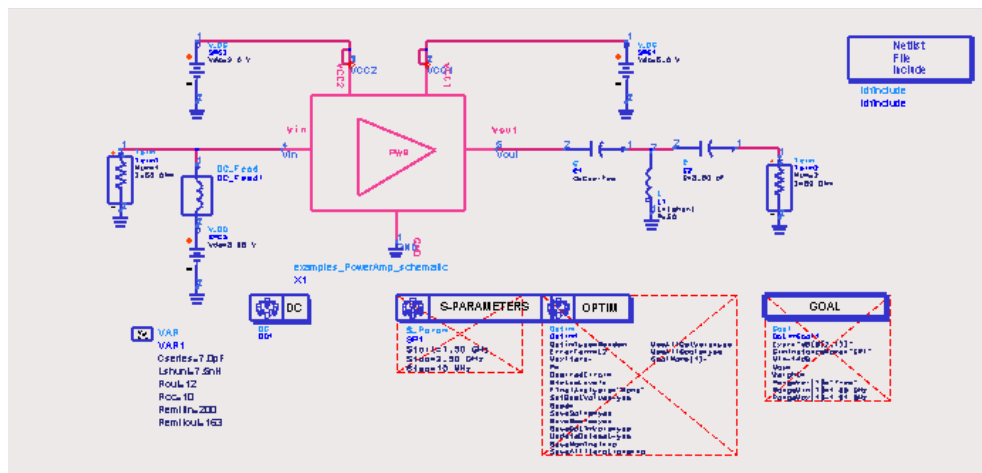

Figure 8-1. Example setup for DC Simulation
1. In Advanced Design System, set up and simulate your schematic. This schematic must contain a *DC Simulation Component* as shown in Figure 8-1.
2. Select the schematic symbol in the ADS schematic that represents the Cadence circuit you want to back annotate. For example, the amplifier block in Figure 8-1.